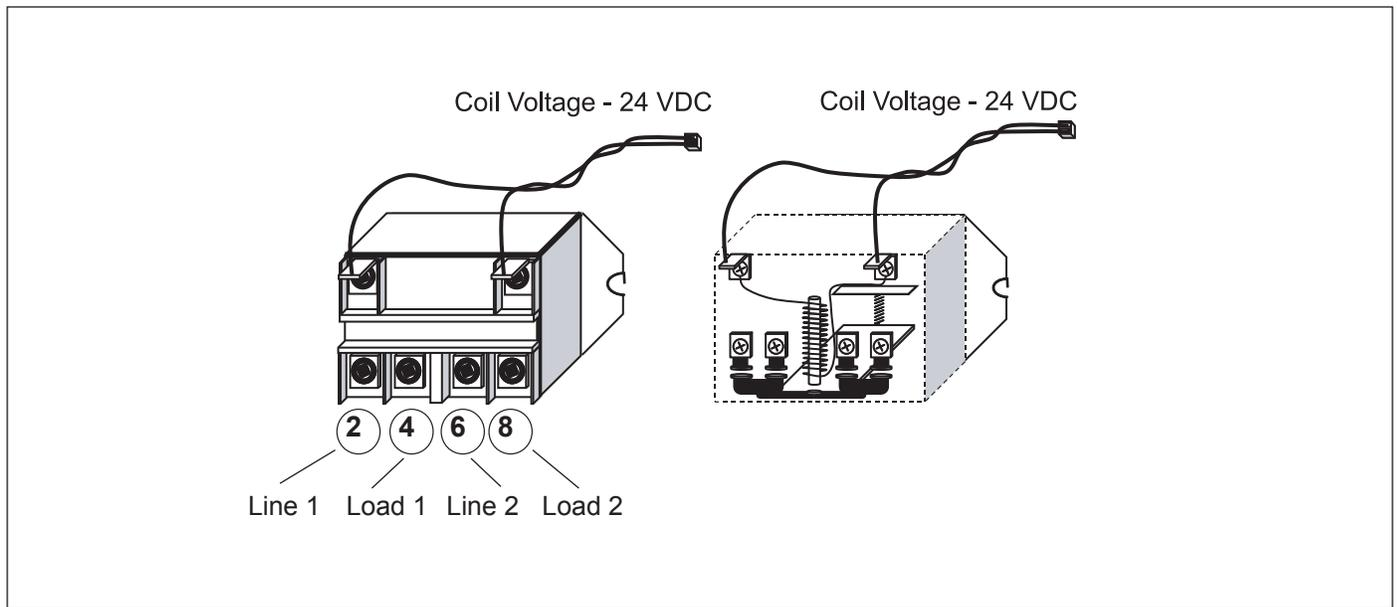

Figure 16. 3 HP Relay
1. A standard 3 HP Relay's coil is supplied with 24 VDC from the power center PCB via one (1) of the driver chips. When 24 VDC is received by the relay's coil wires, it closes the contacts that complete the circuit to turn on the equipment (i.e., power supplied to Line 1 goes out Load 1 to the equipment). See Figure 16.